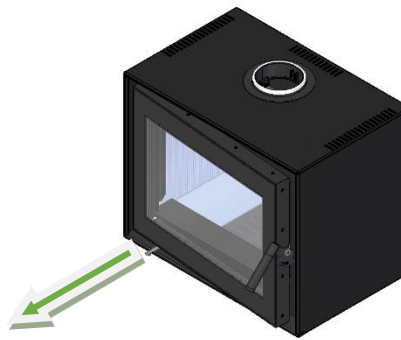

Figure 9 – Door a little bit open and air register open
4. Open the combustion air intake control, leaving the door a little bit open it will increase the ignition as shown in Figure 9.
5. The lighting period ends when the equipment frame has reached a stationary temperature. You should then close the door and regulate the combustion air intake so that the burning is slow, as shown in Figure 9.